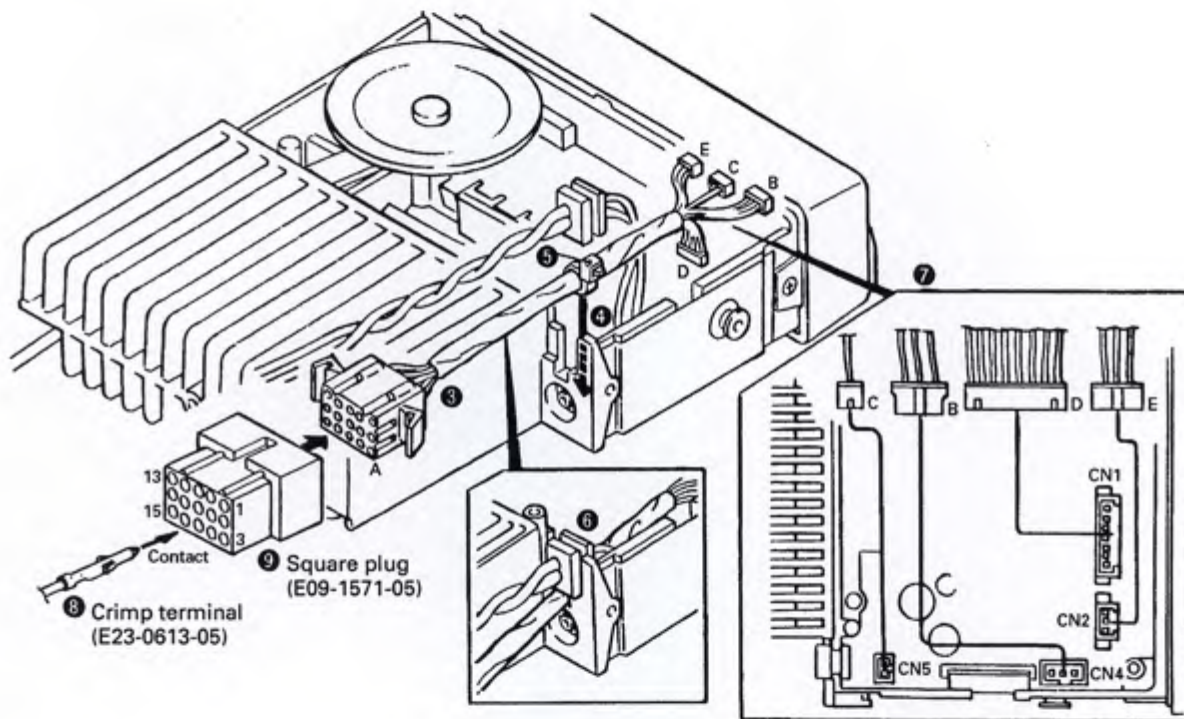

Fig. 2
3. Insert the KCT-19 cable (③) into the chassis (④). The wire harness band (⑤) must be inside the chassis.
4. Relocate the DC cord bushing in the chassis (⑥).
5. Connect the KCT-19 to the TX-RX unit (A/2) as shown in Figure 2 (⑦).
6. Connect the KCT-19 to the external accessory by inserting the crimp terminal (⑧) into the square plug (⑨), both of which are supplied with the KCT-19.
3. 将 KCT-19 电缆 (③) 插入到底座 (④)。电线线束带必须在底座 (⑤) 内部。
4. 重新将直流电源导线绝缘套管安装回底座 (⑥)。
5. 如图 2 (⑦) 所示, 将 KCT-19 连接到 TX-RX 单元 (A/2)。
6. 通过把翻边端子插入方形插头 (⑧) (两者都和 KCT-19 一起提供) 将 KCT-19 连接到外部附件 (⑨)。